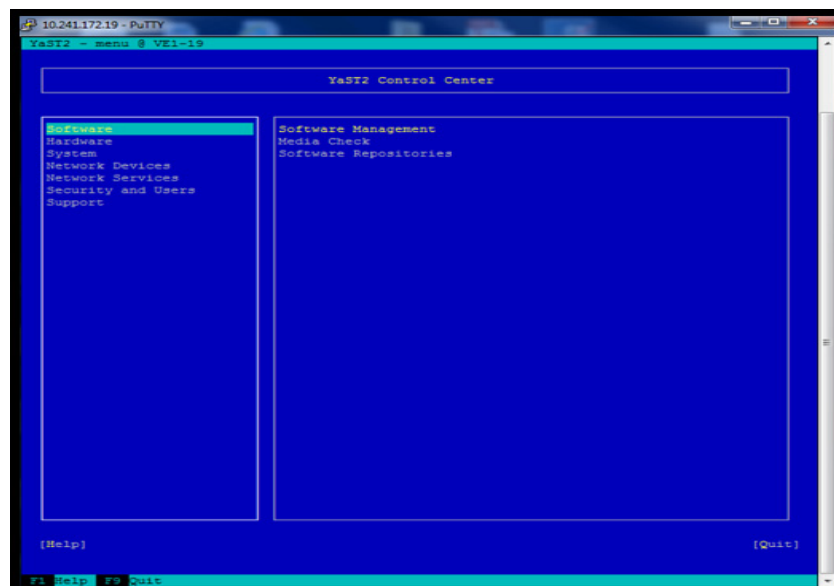

Figure 168 User interface
2. At the prompt, type **yast2**, and then press **Enter**. The YaST2 user interface appears, as shown in Figure 168 on page 128.